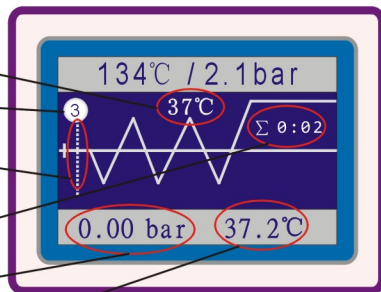

Fig.6.4-1
(1) **Heating coil preheating stage:** when temperature heating coil less than 40℃, the Control system stops vacuuming. Heating coil temperature must be raised above 40℃ before they start vacuuming. (Fig. 6.4-1)